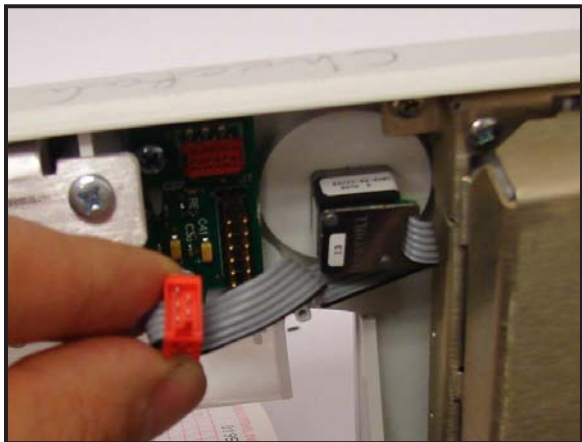

Figure 6-23
9. Disconnect the encoder cable from the keypad board (See Figure 6-23).
- b. Disconnect the encoder cable from the keypad board (See Figure 6-23).